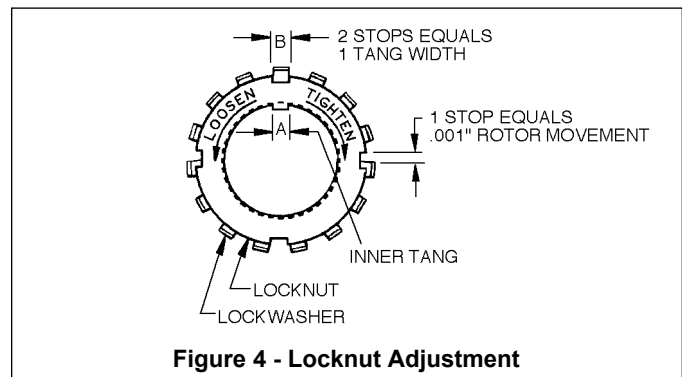

Figure 4 - Locknut Adjustment
3. Hand pack the ball bearing (24) with grease. Refer to "Lubrication" in the Pump Maintenance Section for the recommended grease.
4. Install the bearing (24) into the cylinder recess. The bearing balls should face outward, with the grease shield inward. Ensure that the bearing (24) is fully and squarely seated against the mechanical seal (153).
5. Turn the pump cylinder (12) around and begin assembly on the opposite, outboard end.
6. Remove the vanes (14) from the rotor and shaft assembly (13). Inspect for wear and damage, and replace as follows:
- b. Insert the inboard shaft end into the pump cylinder. Carefully slide the shaft through the installed mechanical seal (153) and bearing (24).
- c. Rotate the shaft to engage the drive tangs of the mechanical seal (153) in the rotor.
- d. Insert the four vanes (14) into the slots in the rotor.
7. Install the lockwasher with the tangs outward, and the locknut with the tapered end inward, on the inboard shaft end. Ensure the inner tang "A" of the lockwasher is engaged in the slot in shaft threads. Bend it slightly, if necessary. (See Figure 4.)
9. Follow the procedures in steps 2 - 4 above to install the mechanical seal (153) and bearing (24) into the head. Apply a small amount of quality O-ring lubricant in the head recess to facilitate installation.
It is important the bearing locknuts (24A) and lockwashers (24B) be adjusted properly. Overtightening locknuts can cause bearing failure or a broken lockwasher tang. Loose locknuts will allow the rotor to shift against the head or cylinder wall, causing wear. See Figure 4.